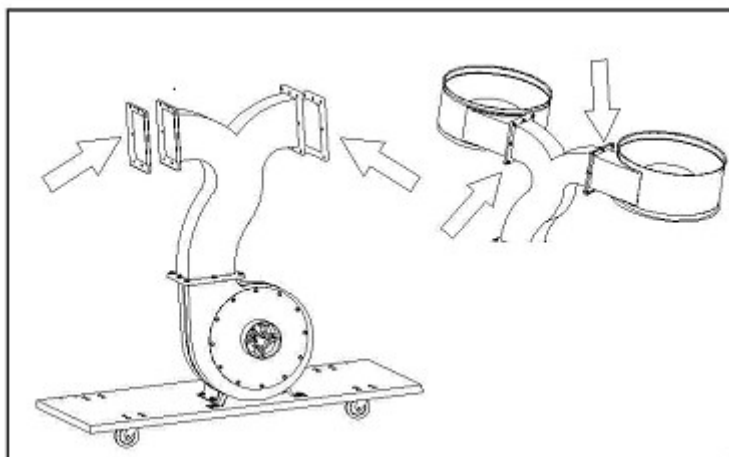

Fig5
Next install the two collectors (C) two packing (I) to the outlet as shown in Fig5.